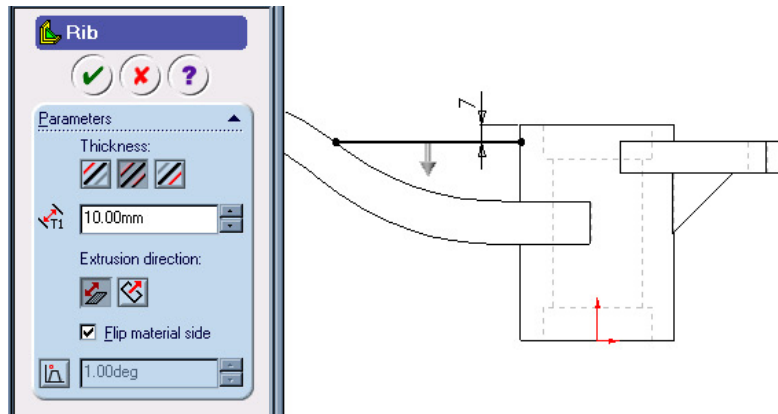

Figure 21 Handle rib parameters.
3. Select **Rib**  on the Features toolbar. Select **Both Sides** , enter **10 mm** in the **Rib Thickness**  box and check **Flip material side** as shown in Figure 21.